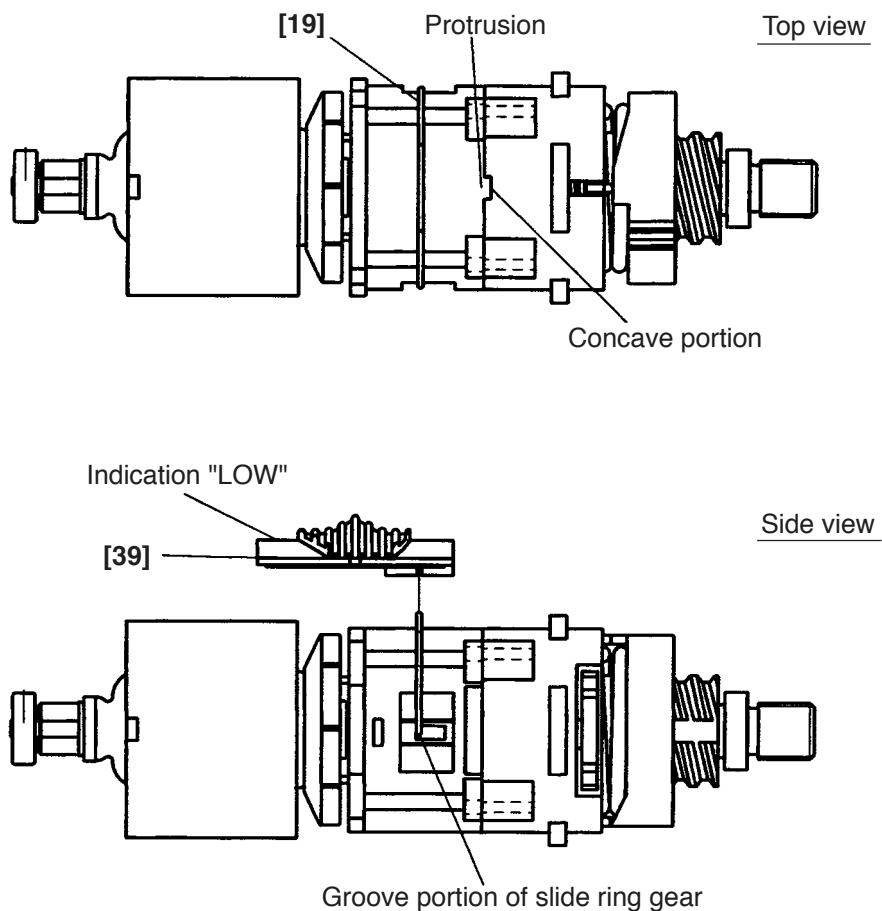

Fig. 12
- ⑤ Mount the Front Case [10] to the Rear Case [18] so that the concave portion of the Front Case [10] aligns with the protrusion of the Rear Case [18] (see Fig. 12).
- (b) Mounting the Shift Arm [19] and the Shift Knob [39] (see Fig. 12).